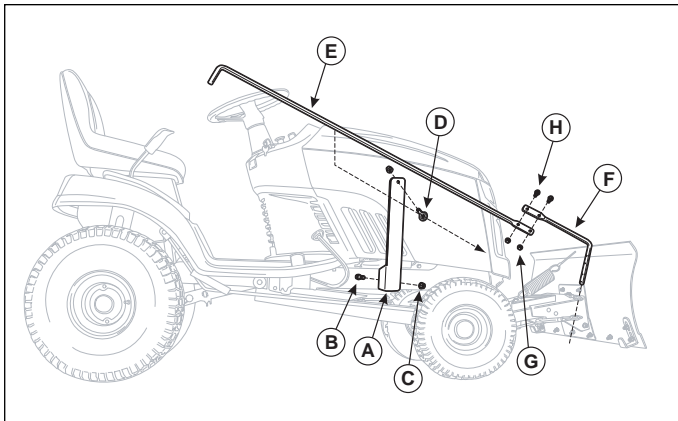
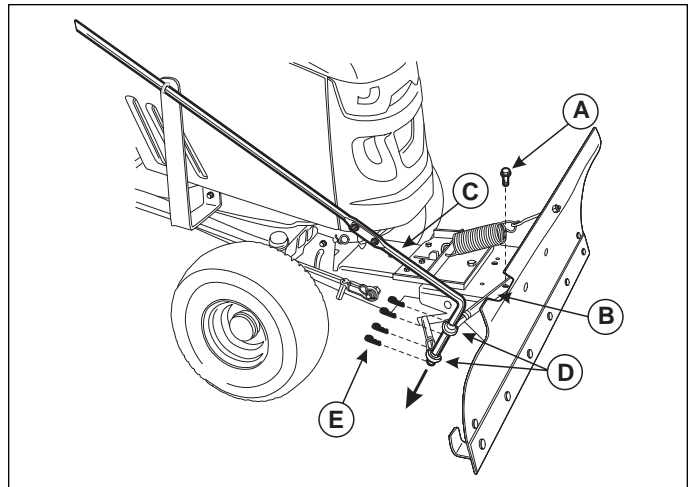

Figure 13. Blade Control Arm Installation
Figure 14. Lower Control Arm Installation
1. On right side of tractor, install the control arm support bracket (A, Figure 13) using the flange nut (B) and bolt (C) to the tractor frame.
2. Install the eyebolt (D) through the hole at the top of the lift arm support bracket, with the eyebolt to the outside.
3. Attach the lower portion of the control arm (F) to the upper control arm using the lock nuts (G) and bolts (H).
4. Install the lock bolt (A, Figure 14) through the upper snow blade adjustment arm (B), securing the adjustment arm to the snow blade frame.
5. Slide the control arm through the two adjustment arm ball joints (D). Secure the control arm with the four (4) hair pins (E).